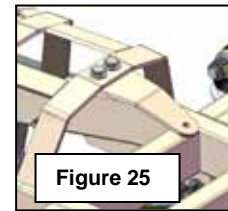

Figure 25
- c. Install rear seat mount tab to top frame as shown with supplied hardware. Figure 25